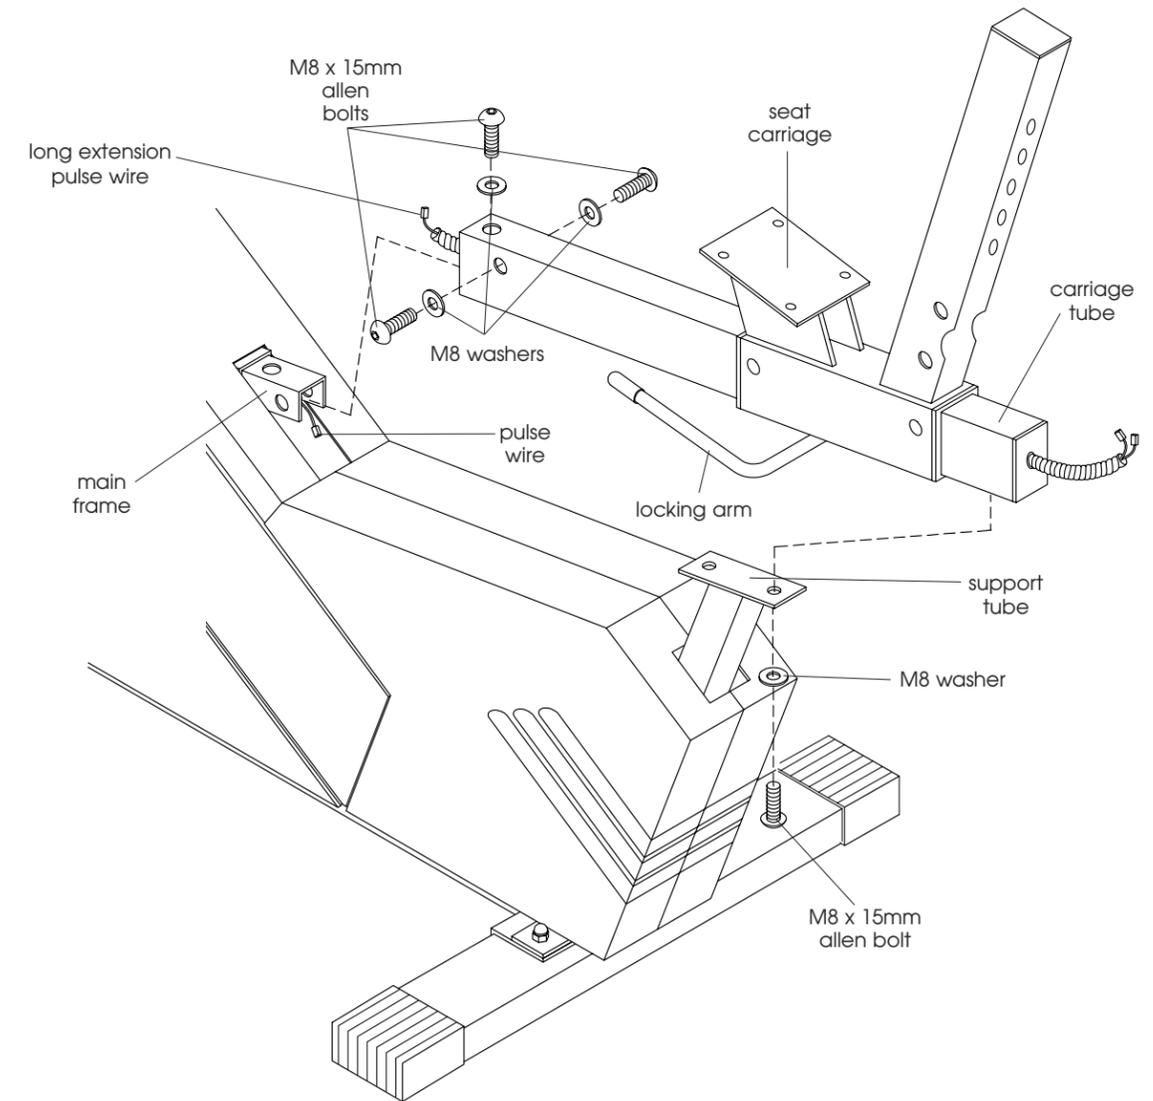

Figure 3 - Install Seat Carriage
- Remove (1) Allen Bolt and (1) Washer from underside of Carriage Tube, see Figure 3.
- Position Seat Carriage in front of Carriage Tube with the (1) bolt hole facing down.
- Remove (3) Allen Bolts and (3) Washers from Main Frame.
- Plug Pulse Wire from Main Frame into Long Extension Pulse Wire from Carriage Tube and remove twist tie, see Figure 3.
- Slide Carriage Tube over Main Frame, align bolt holes and fasten using (3) Allen Bolts and (3) Washers removed in Step 3d, tighten bolts. **Note: DO NOT Pinch Wires.**
- Attach Carriage Tube to Support Tube with (1) Allen Bolt and (1) Washer removed in Step 3a and tighten.